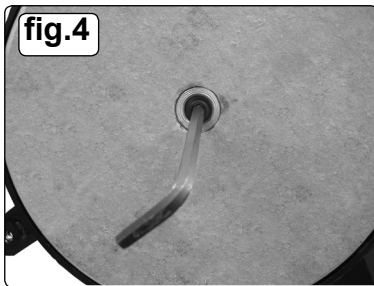
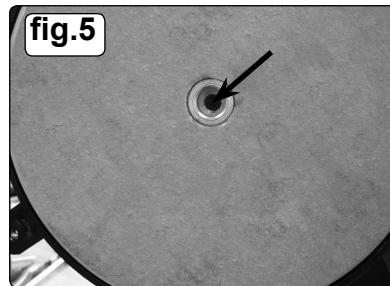

fig.4
fig.5
- 6.7.2. Remove the socket headed screw and washer (fig.4), followed by the bolt cup (fig.5).